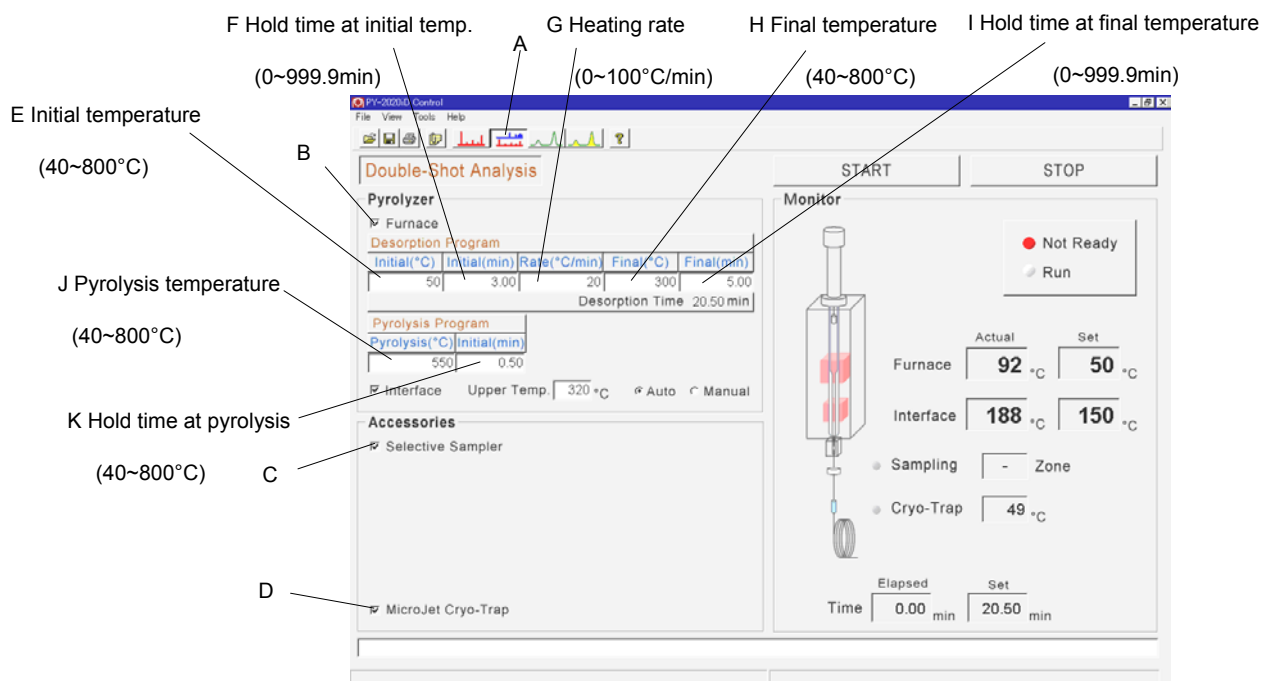
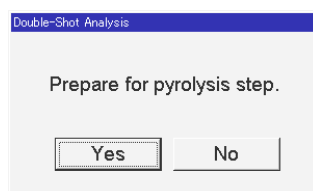

Fig. 4.9 Setting Screen of Double-Shot Analysis
Fig. 4.11 Dialog Box Showing End of Desorption in Double-Shot Analysis
Choose “Tools” > “Analytical Modes” > “Double-Shot Analysis” or click the tool bar icon for Double-Shot Analysis (A). A screen shown in Fig. 4.9 is displayed.
8. When thermal desorption program is completed, a dialog box shown in Fig.4.11 will be displayed. Pull up the double-shot sampler slider so that the sample cup is positioned just underneath the sampler. After the column inlet pressure has been stabilized, click “YES” button. [GC will start and the pyrolyzer furnace temperature will rise up to the temperature set in I of Fig. 4.9.]